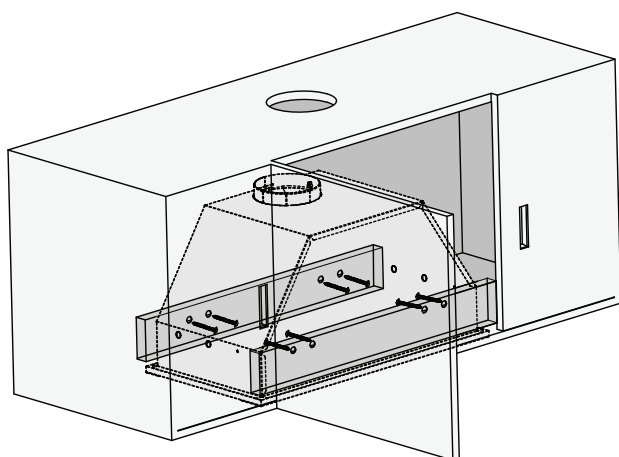

Figure 4
- Use 8 screws to fix the hood onto the front and rear wooden beams (see Figure 4 and 5).